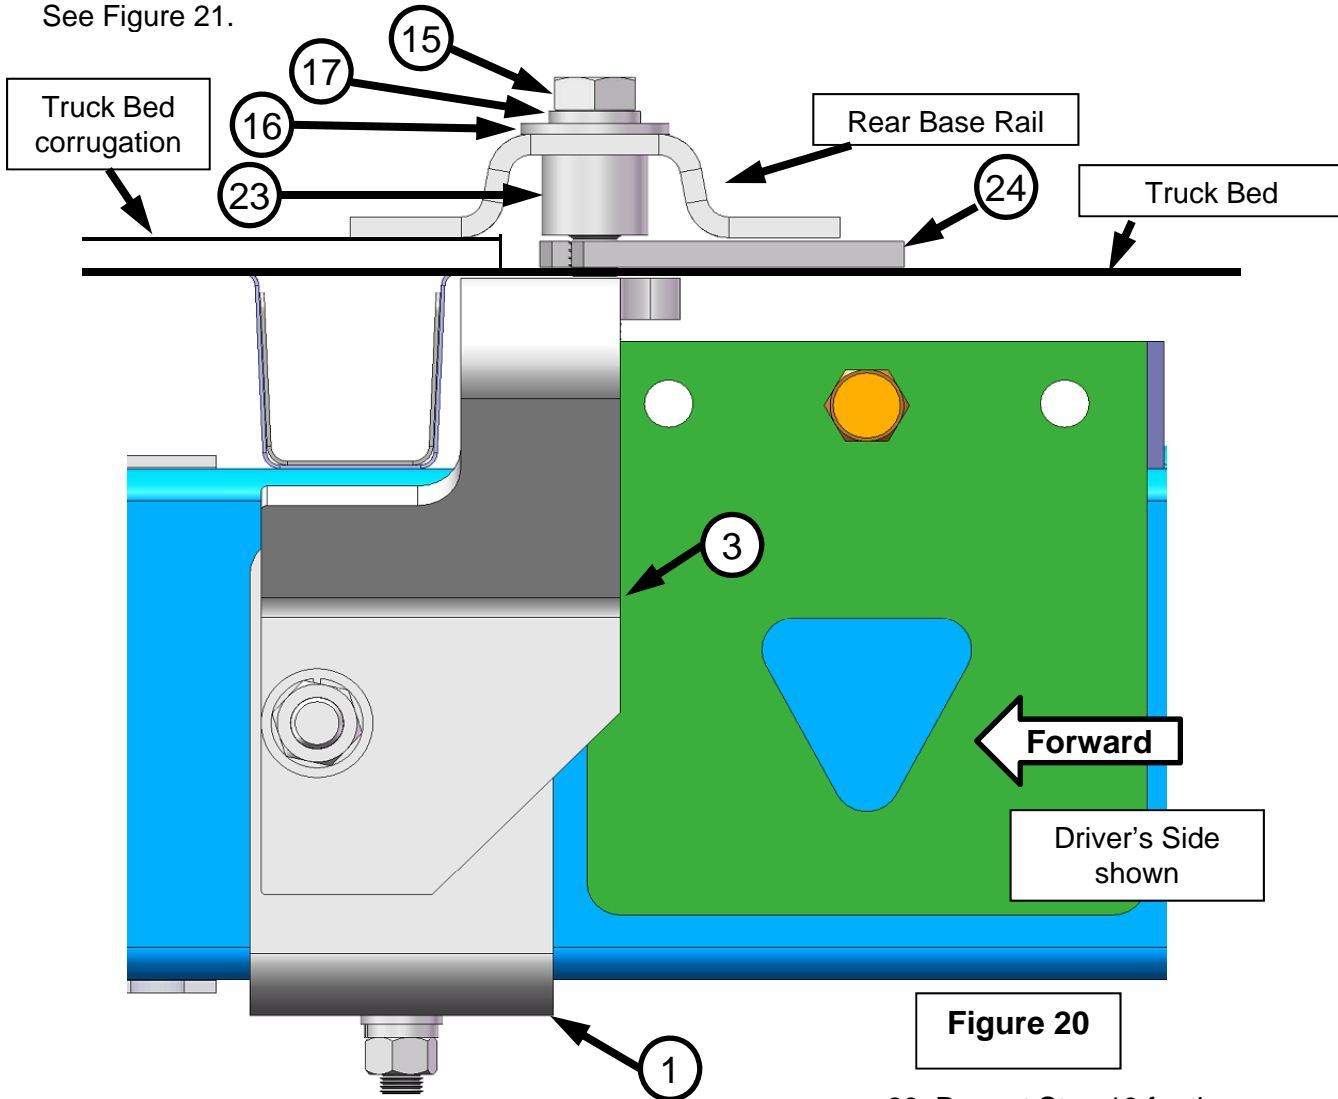

Figure 20
28. Install the base rail spacer (item#23) as shown. Secure the rear base rail to the rear driver's side bracket (item 3) using the 5/8" hardware (items 15,16 & 17) Install the slotted end spacer (item #24) as shown between the truck bed and rear base rail. See Figure 20. The slotted end spacer will be on the rear side of the base rail. See Figure 21.